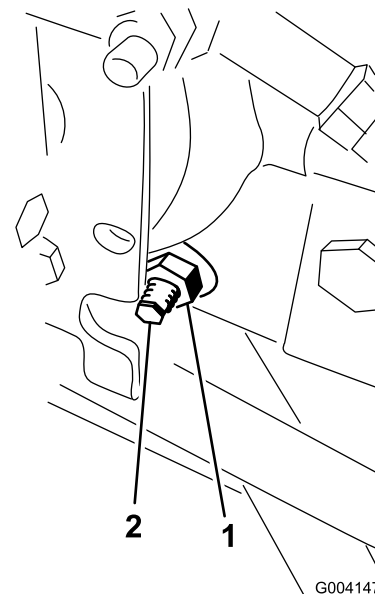

Figure 66
3. On the right side of the hydrostat, loosen the locknut on the traction-adjustment cam (Figure 66).